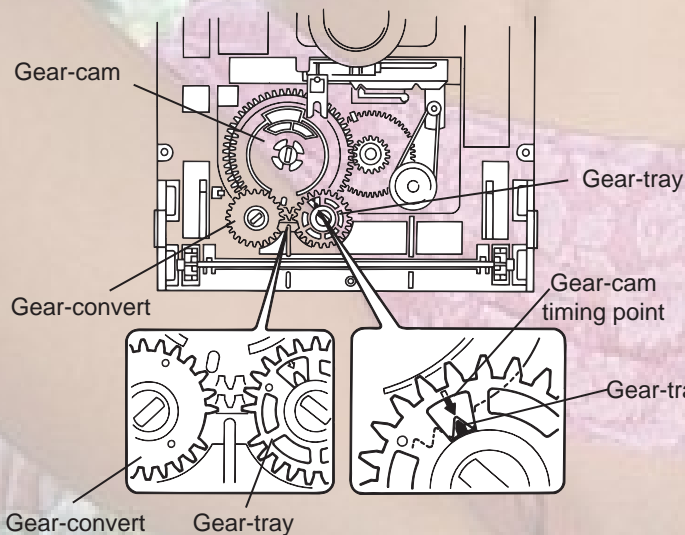

Fig.3
1. Align the gear-cam with the gear-tray as shown fig.3, then mount the CD tray.